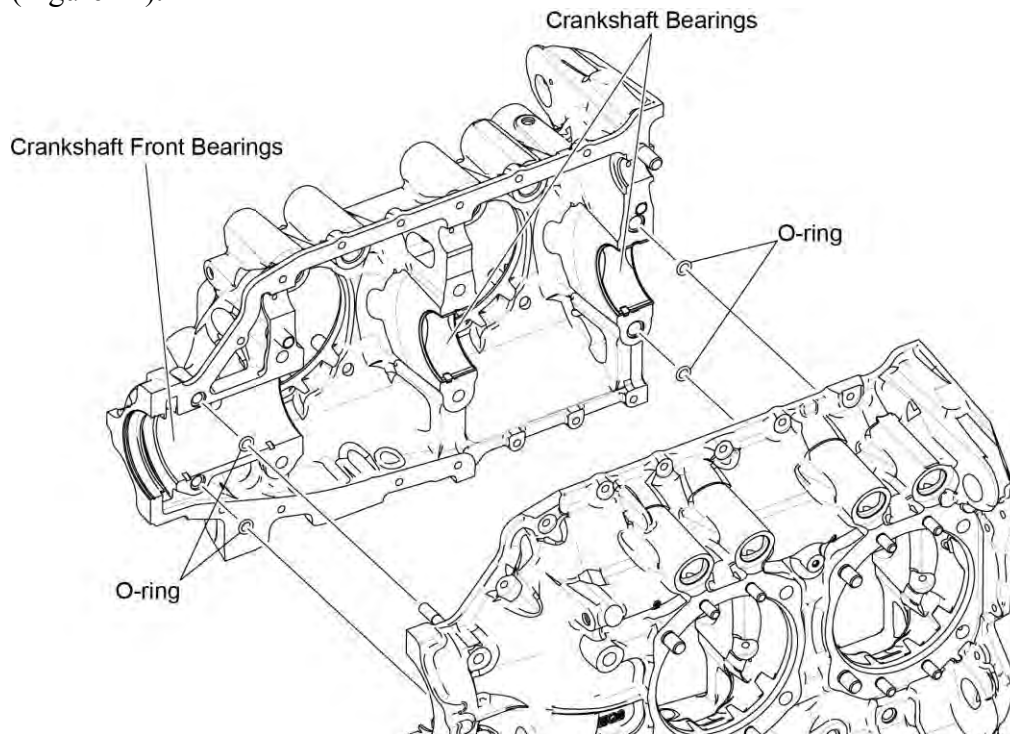

Figure 12
- (5) Remove and discard the crankshaft bearings, crankshaft front bearings, and O-rings (Figure 12).
- A. Install new crankshaft bearings at all main bearing locations in the crankcase halves (Figure 12).